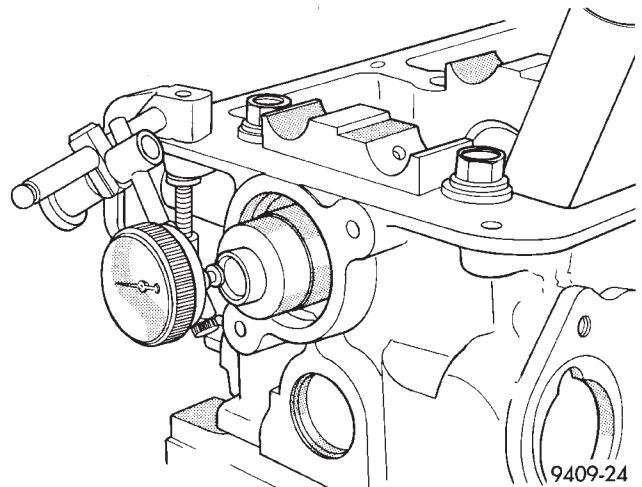

Fig. 24 Camshaft End Play
- (1) Oil camshaft journals and install camshaft without rocker arm assemblies.
- (2) Using a suitable tool, move camshaft as far rearward as it will go.
- (3) Zero dial indicator (Fig. 24).
- (4) Move camshaft as far forward as it will go.
- (5) End play travel: 0.1 - 0.2 mm (0.004 - 0.008 in.). Max. Travel: 0.4 mm (0.016 in.)